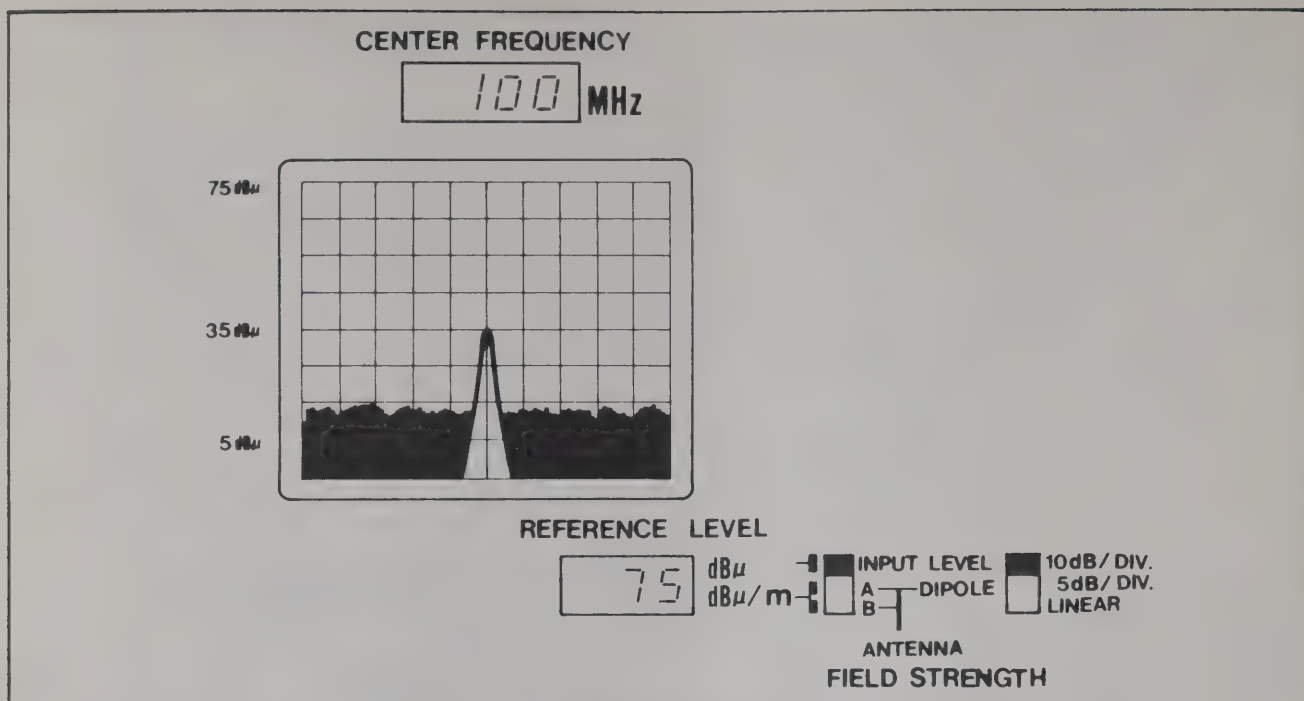

Figure 4.8 Average Noise Level Test Procedure
- c. Adjust the IF GAIN-CAL control to center the signal on the CRT DISPLAY (Figure 4.8).